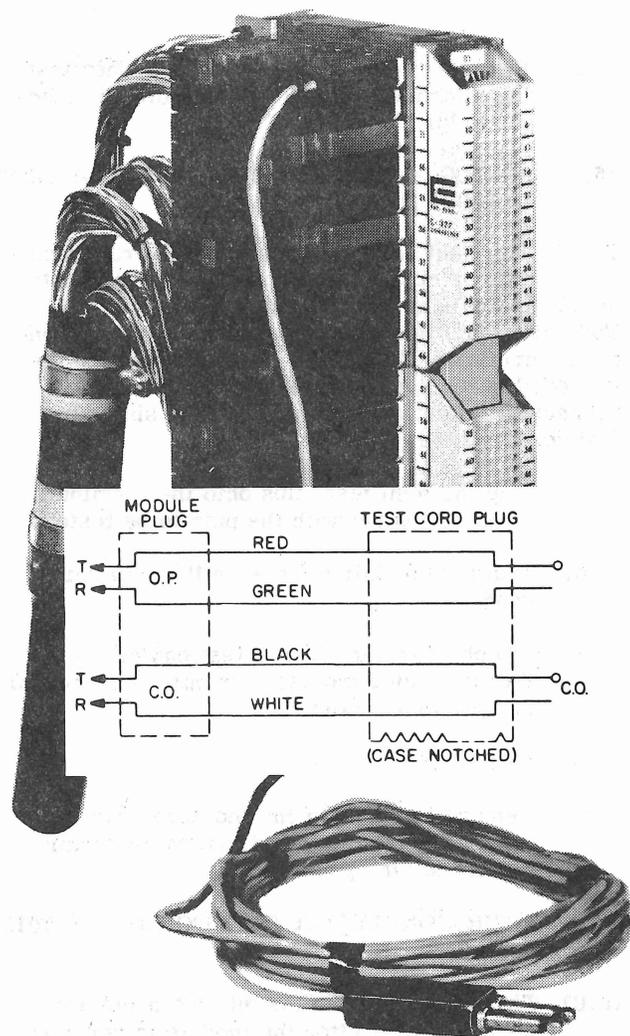

Figure 32. Four Conductor Test Cord
16.01 These Test Cords plug into the protector module socket after the module is removed (see figure 32). Tests can be made toward the outside plant or toward the central office. One end of the Test Cords has a plug with the same pin arrangement as a protector module. Test Cord 303-1012 has a dual telephone plug on the other end